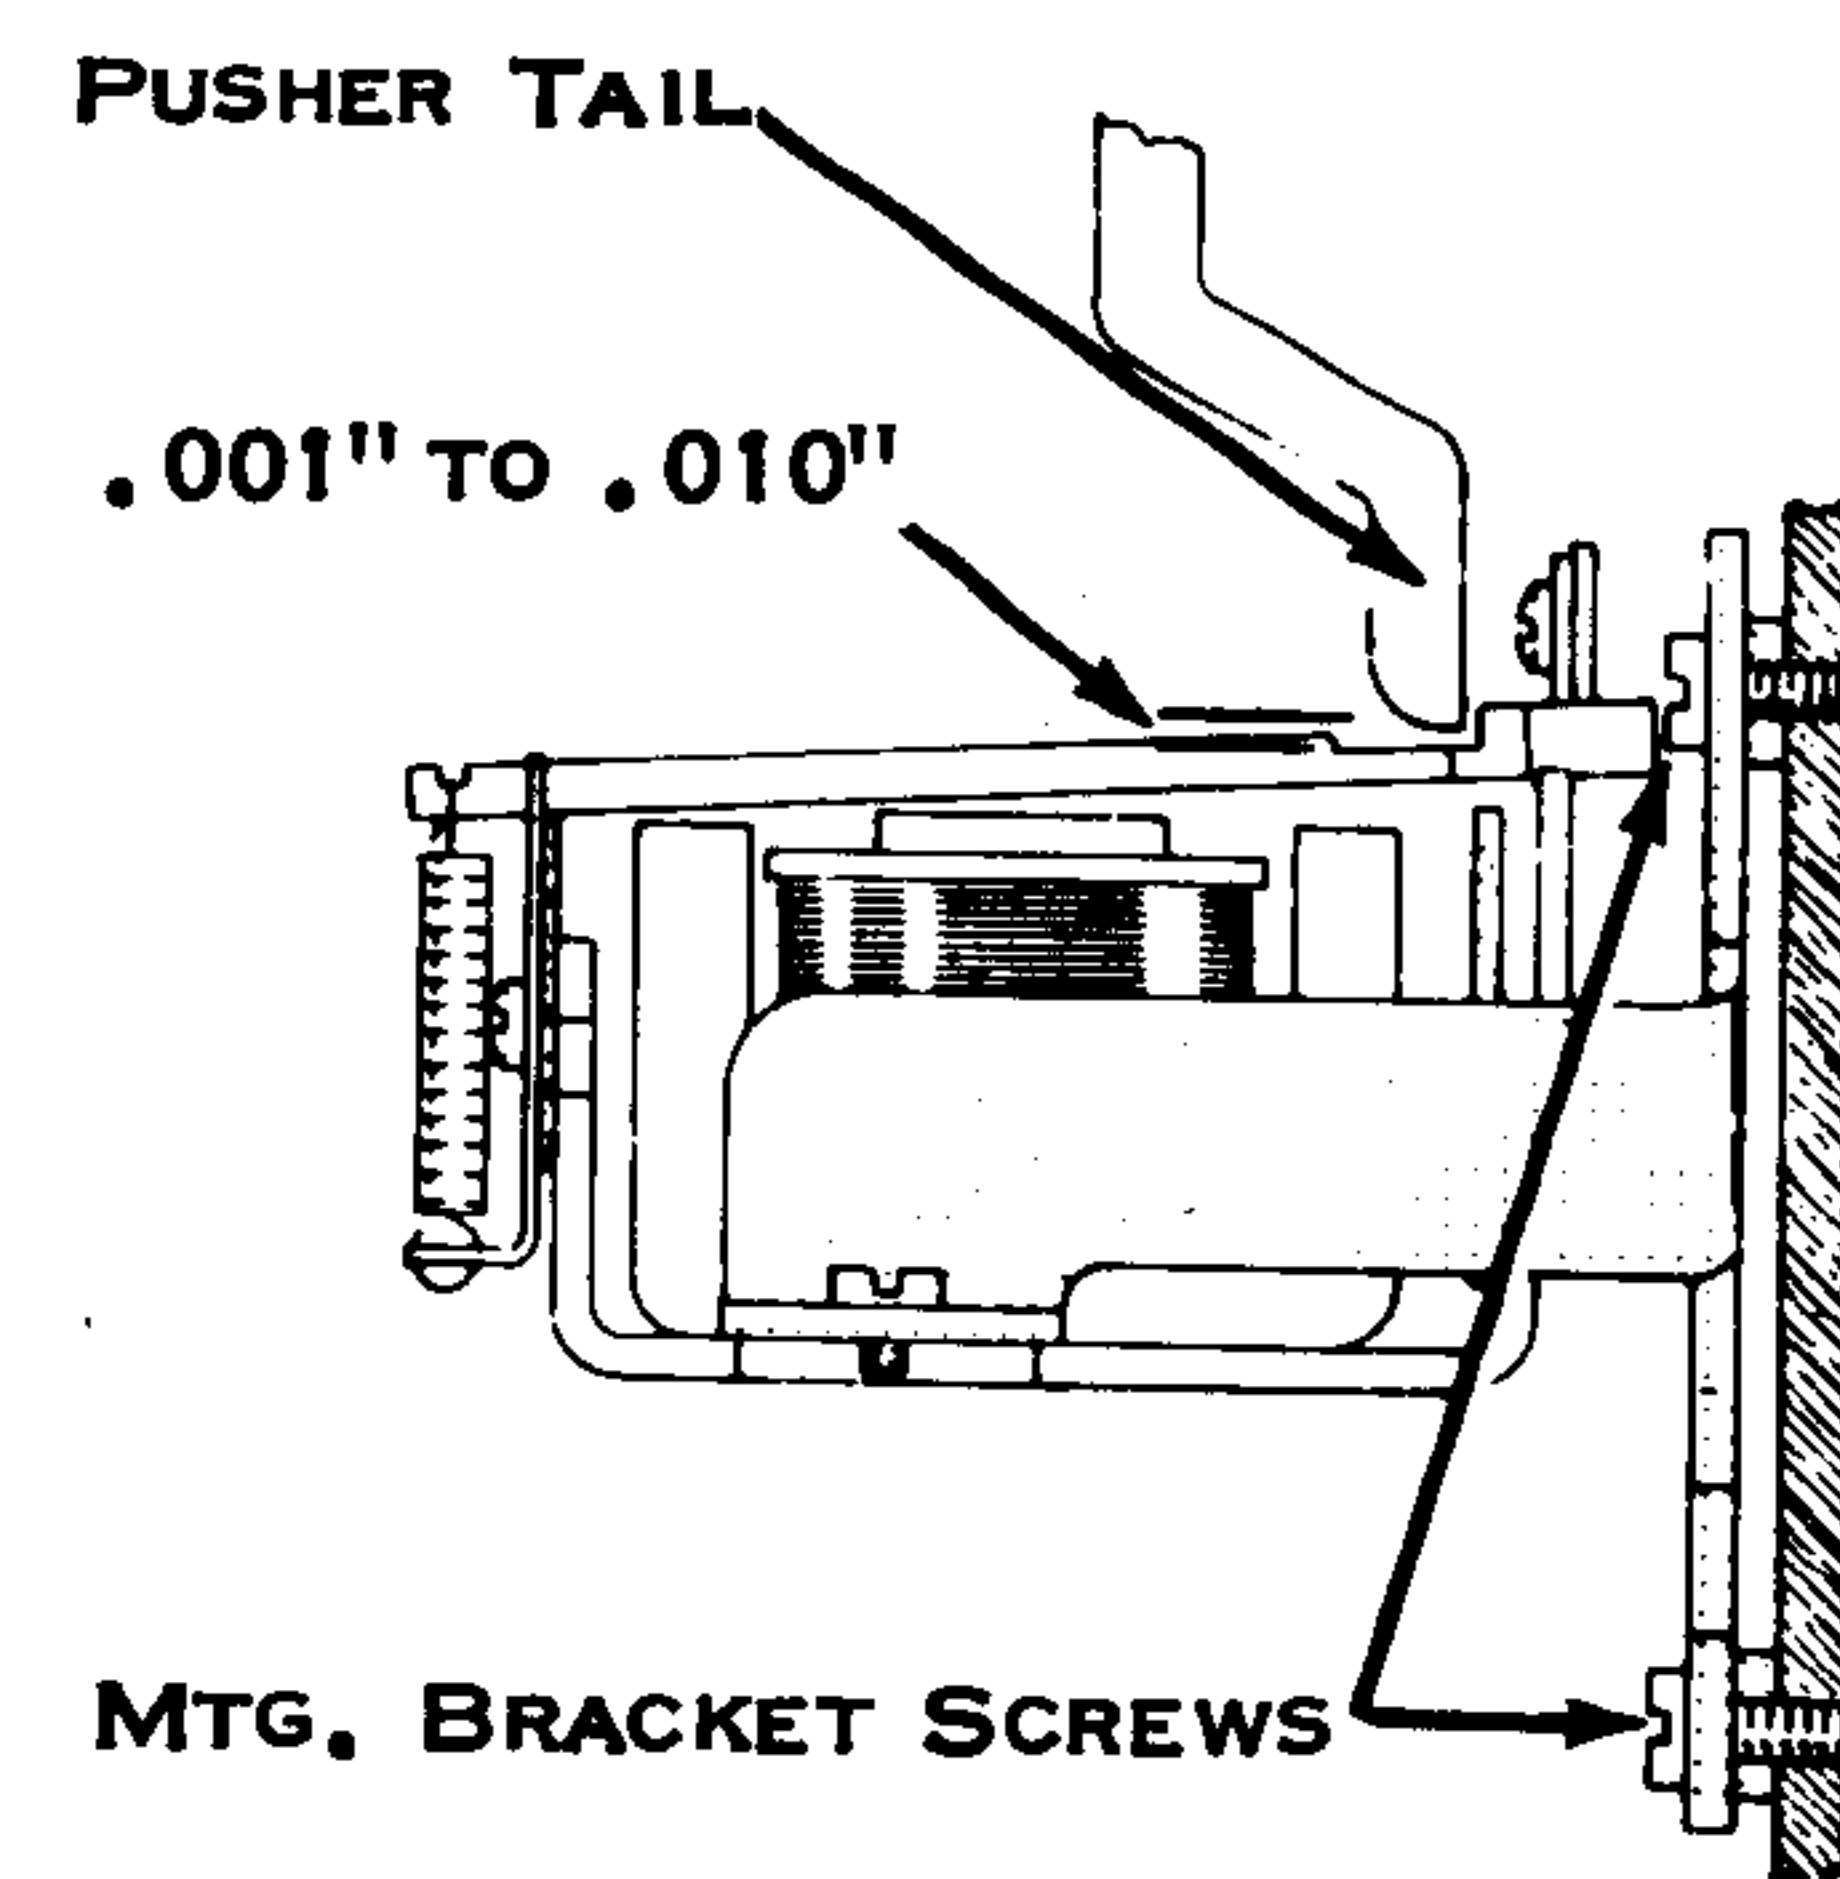

Figure 26. Mounting Bracket Position
8. Mounting Bracket (Fig. 26) - Position under its four mounting screws for .001" to .010" clearance between the pusher tails and armatures.